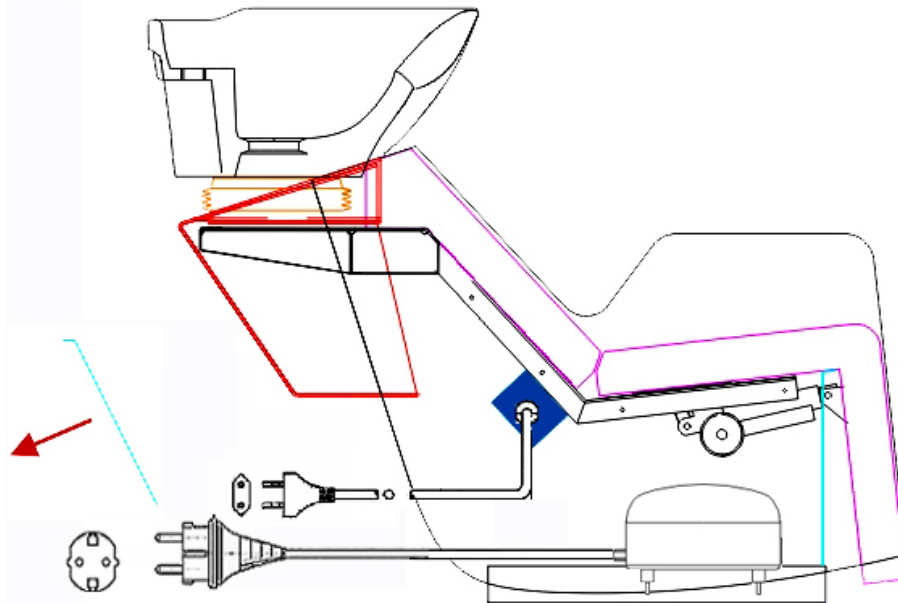

Fig.6
9) Once the sink is positioned properly, remove the aluminium front cover, placed underneath the seat, by unscrewing the fixing bolts, extract the feeding cable out of the leg-raise control box. Pull out the cable with the Schuko plug, coming out of the AIR SHIATSU MASSAGE control box. Connect the 2 different cables to the provided electric socket flush to the floor, (fig.6)